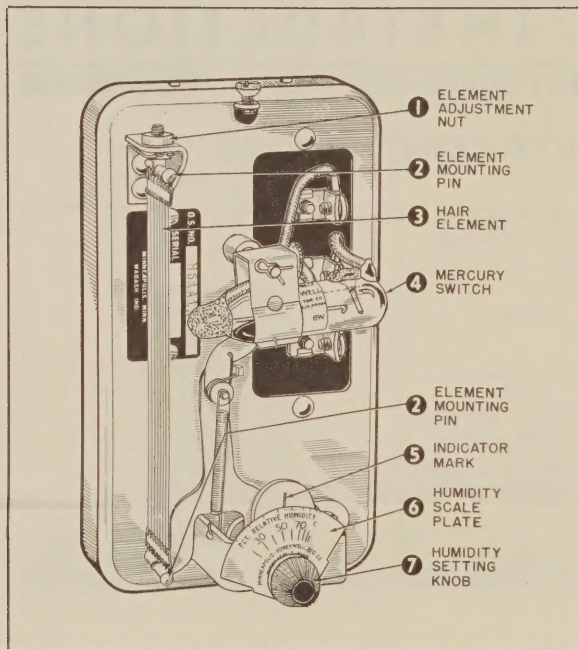

Fig. 3—Type H61 Controller. Type H41A & B are similar except that they have a two-wire mercury switch.
**SETTING**—To set the Humidity Controller it is only necessary to turn the knurled knob (7-Fig.3) until the indicator mark (5) is opposite the desired percent of relative humidity on the scale (6).